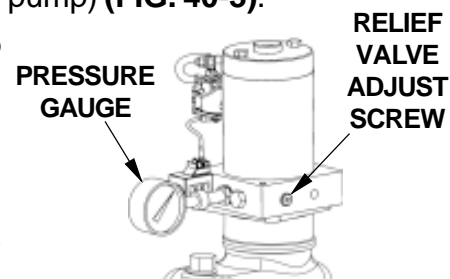

FIG. 40-2
9. With Platform on the ground, remove the pressure hose and fitting from Pump and replace it with a 0-3000 PSI Pressure Gauge. Hold the Control Switch in the "RAISE" position. Adjust the Relief Valve on the side of the Pump until the gauge shows 2800 to 3000 PSI (FIG. 40-2). Remove gauge and reinstall pressure hose.